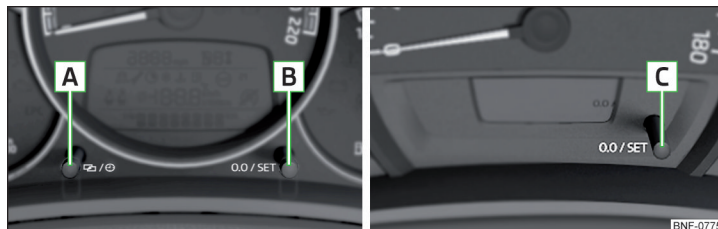

Fig. 23 Buttons in the instrument cluster: Variant 1 and 2 / variant 3
- Hold the key **[C]** » Fig. 23 on page 32 until the time / external temperature display flashes.
- Press down button **[A]** until » Fig. 23 the hour flashes in the display.
- Hold the button **[C]** » Fig. 23 until the time display flashes.
- Press the button [B] or [C] » Fig. 23 on page 32.
- Select the counter for the distance driven which has been reset (trip) and hold the button [B] [C] or » Fig. 23 on page 32.